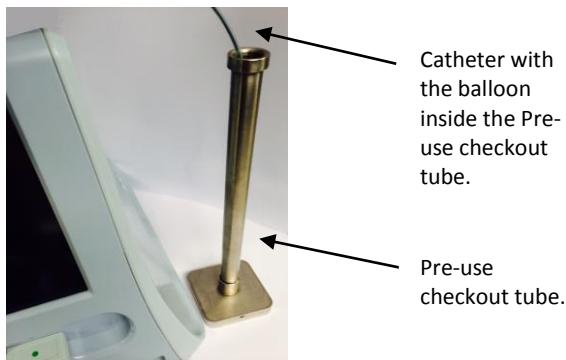

Figure 2: EndoFLIP® catheter in the pre-use check-out tube.
2. Place the balloon, tip first, into the EndoFLIP® pre-use checkout tube, which holds the balloon in a vertical position (see Figure 2).